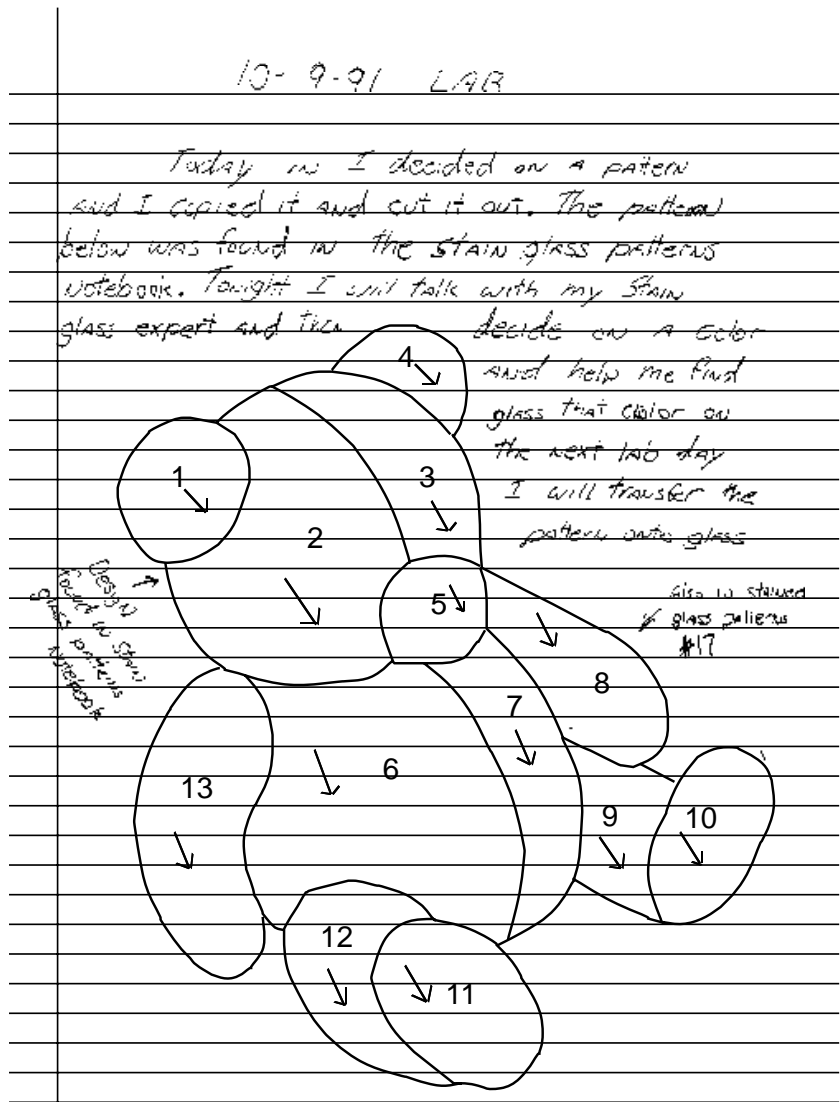

Figure 6.7. Pattern for a Project from Richland High School MST Student
1. Select a pattern (see Figure 6.7).